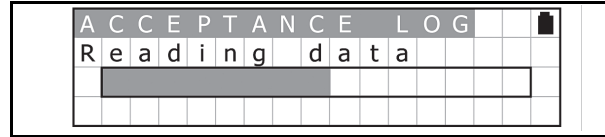

Figure 43 Acceptance Log Reading Screen
- The LCD Screen will display a Progress Bar during the Acceptance Log reading process as shown in Figure 43.